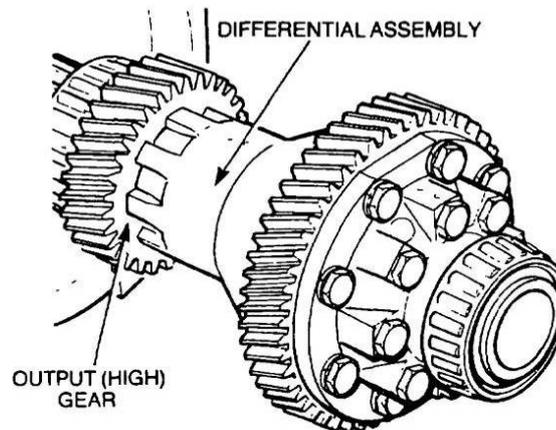

Figure 207 Removal of the Differential Assembly
- p. Remove the differential assembly complete with the output (high) gear (Figure 207).